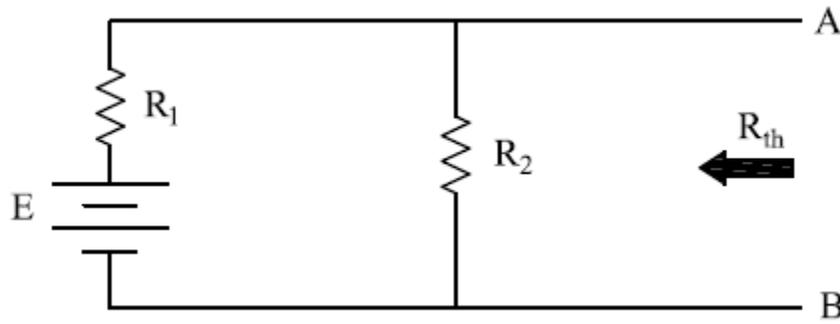

Fig.1(b) The equivalent circuit according to the Thevenin Theorem
3. Replace the voltage source with short circuit and redraw circuit as shown in Fig.1(c). When viewed from terminals A and B, the circuit will consist of two parallel resistances (R_1 and R_2). The equivalent resistance of the network is called THEVENIN RESISTANCE (R_{th}) or open circuit resistance (R_0).